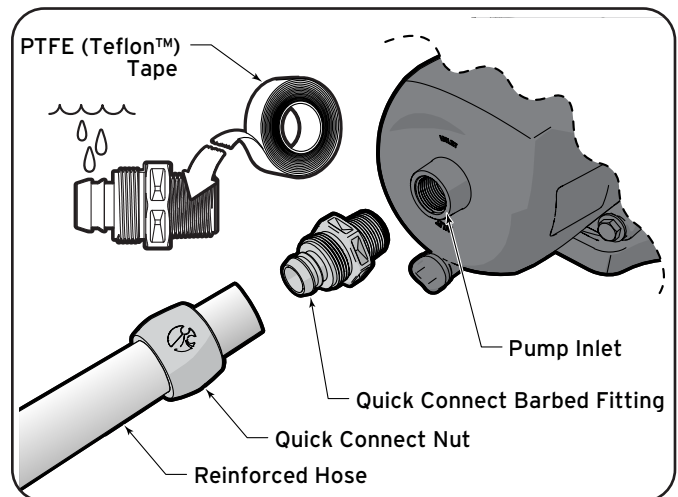

Figure 9. Quick Connect Installation
5. Apply 4-6 wraps of PTFE (Teflon™) tape to the tapered threads on all four of the barbed fittings. Be sure to wrap the tape in the opposite direction that the male threads will be turning in order to create a water tight seal. See Figure 9.
8. Slide the quick connect nut over the reinforced hose. See Figure 9.
9. Use water to lubricate the barbs. See Figure 9.
12. Install a second quick connect barbed fitting at the pump suction inlet. See Figure 9.